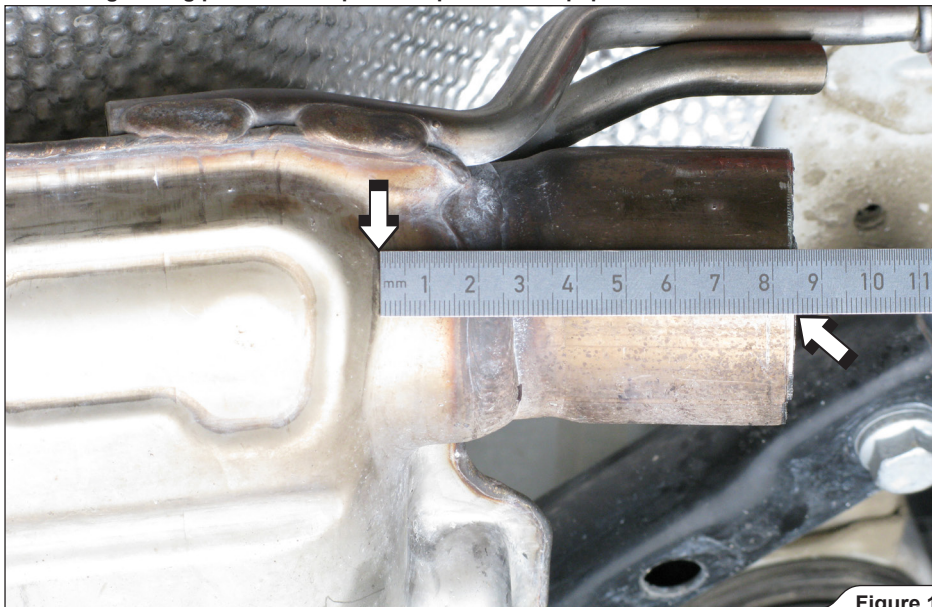

Figure 1
1. **For Tail-Pipes only:** mark both stock Tail-Pipes **85mm** from the edge of the muffler, as shown in figure. Cut pipes with angle grinder or equivalent (**Figure 1**).